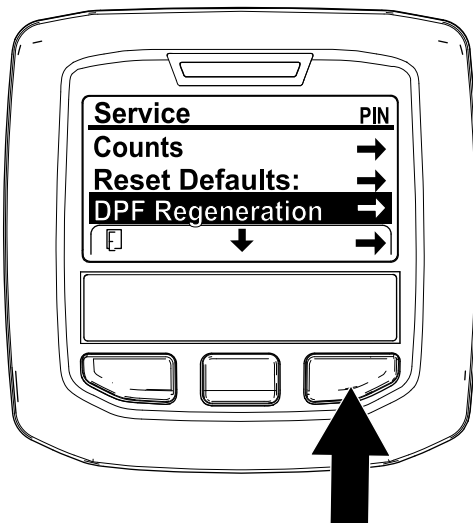

Figure 6
1. Access the Service menu, press the center button to scroll down to the DPF REGENERATION option (Figure 6).
2. Press the right button to select the DPF Regeneration entry (Figure 6).